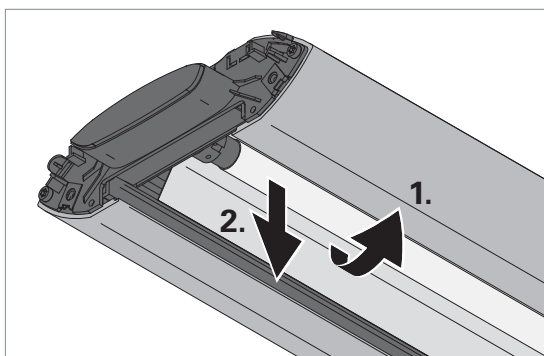

Fig. 18: Replacing the lamp.
- ▶ Rotate the lamp by 90° and take out the lamp toward the bottom, see Fig. 18.